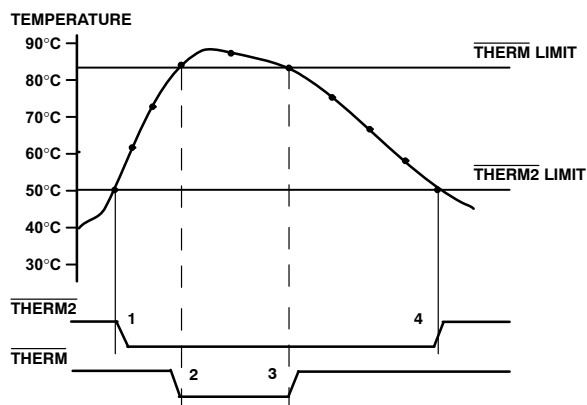

Figure 21. Operation of the THERM and THERM2 Interrupts
Figure 21 shows how $\overline{\text{THERM}}$ and $\overline{\text{THERM2}}$ might operate together to implement two methods of cooling the system. In this example, the $\overline{\text{THERM2}}$ limits are set lower than the $\overline{\text{THERM}}$ limits. The $\overline{\text{THERM2}}$ output could be used to turn on a fan. If the temperature continues to rise and exceeds the $\overline{\text{THERM}}$ limits, the $\overline{\text{THERM}}$ output could provide additional cooling by throttling the CPU.
3. The $\overline{\text{THERM}}$ output deasserts (goes high) when the temperature falls to $\overline{\text{THERM}}$ limit minus hysteresis. No hysteresis value is shown in Figure 21.